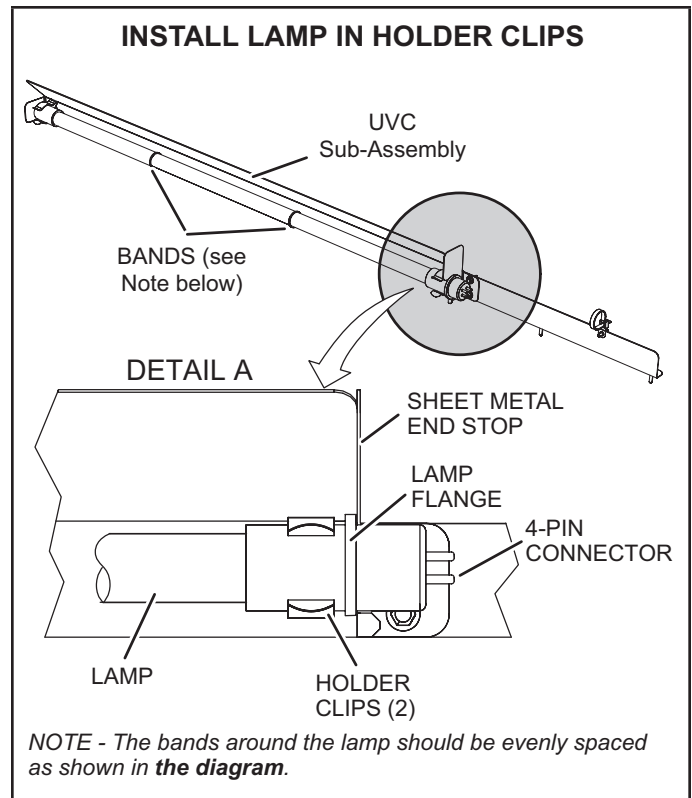

FIGURE 32
- 7 - Wear cotton gloves or use a cotton cloth when handling the new lamp. Place the new lamp in the holder clips of the UVC assembly. Verify that the lamp flange at the connector end is sandwiched between the lamp holder clip and the sheet-metal end stop (see FIGURE 32).